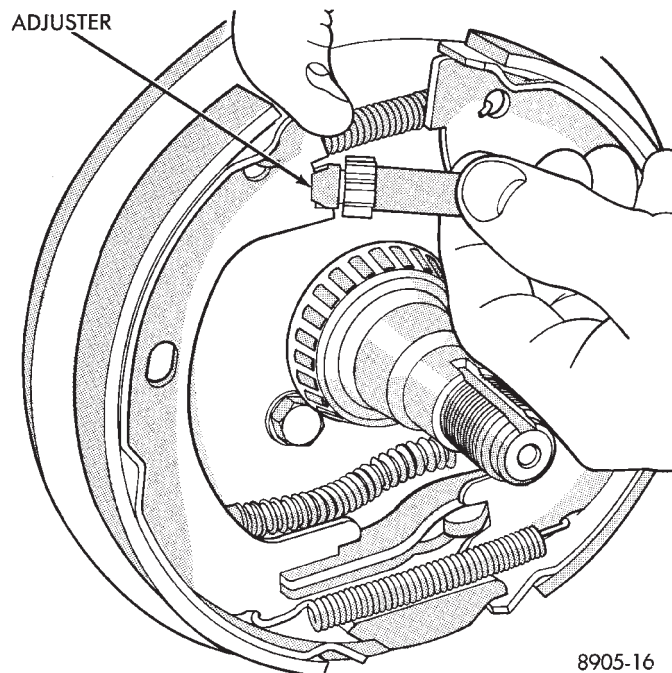

Fig. 2 Removing Adjuster Assembly
(7) Turn parking brake, brake shoe adjuster wheel until adjuster is at shortest length.
(8) Remove the parking brake, shoe adjuster assembly (Fig. 2).